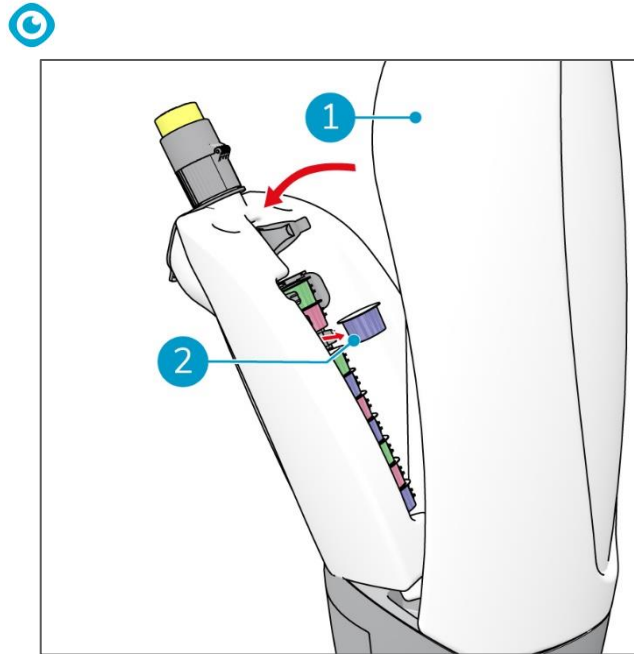

Figure 12
3. Pull the top of the solution tank away from the i-mop® body (Figure 12, pos 1).
4. Take out the desired pod (Figure 12, pos 2).